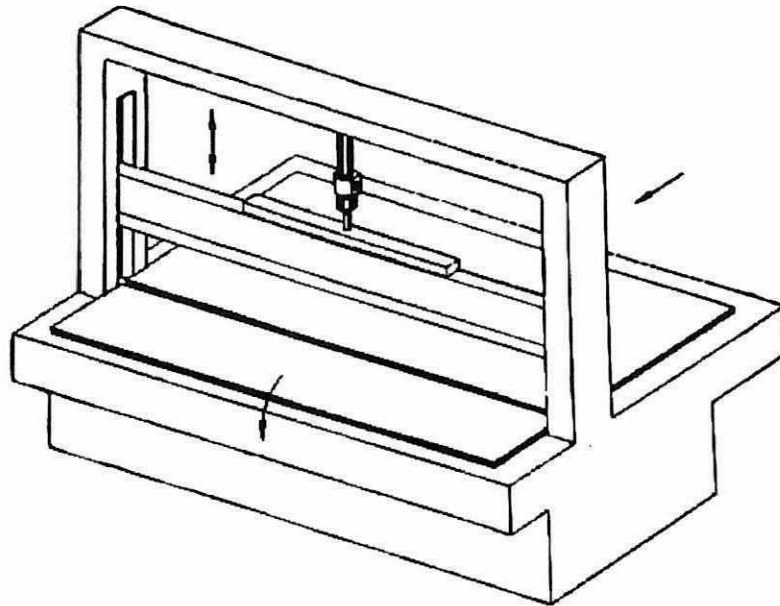

Figure Q3.1 A Cutting Device for Paper
(c) Based on the **Figure Q3.1**, sheets of paper are to be cut to size using a cutting device. The cutting blade is advanced and the sheet of paper is cut by pressing two push button switches. After releasing one push button switch, the cutting blade is returned to its start position. Prepare the ladder diagram of the system by making the cutting blade (CB) as the system's output.